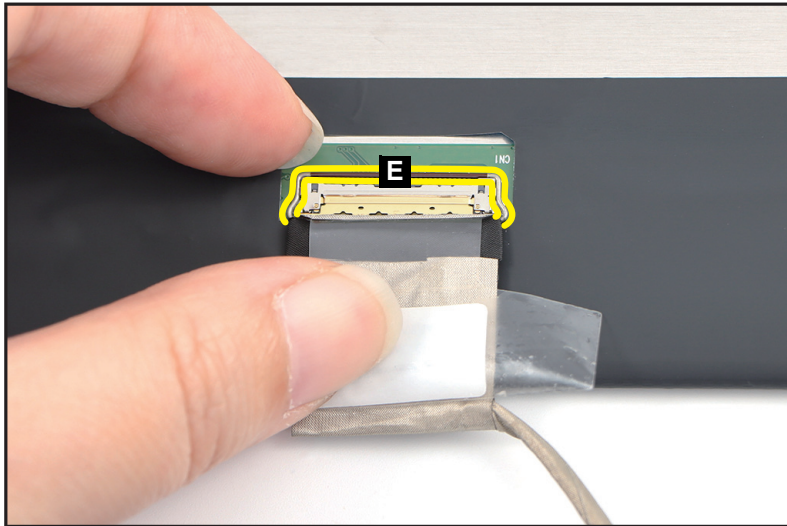

Figure 1-71. LCD Panel Removal
4. Lift the latch (E) securing the LCD cable (Figure 1-71).